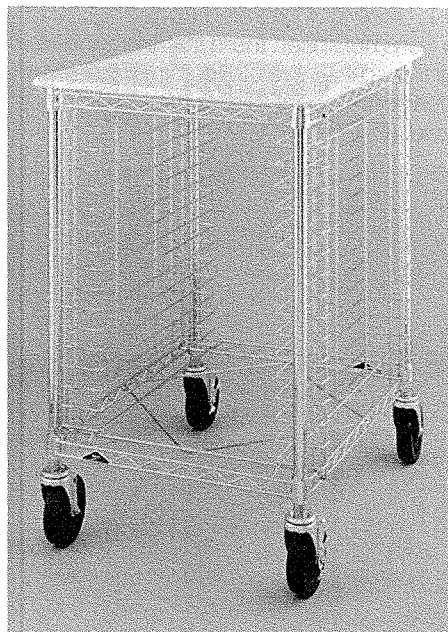

Fig. 8
11. Take four retaining rings and using a hammer, insert them into the grooves of the split sleeves to lock the frames in position. Repeat this for the lower frame also. (Fig. 8).